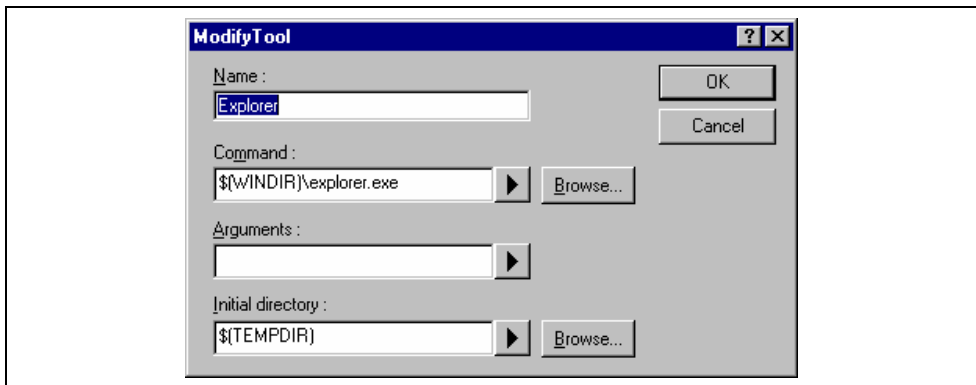

Figure 6.6: Modify Tool Dialog
3. Make the desired changes on the “Modify Tool” dialog (figure 6.6) and then click “OK”.